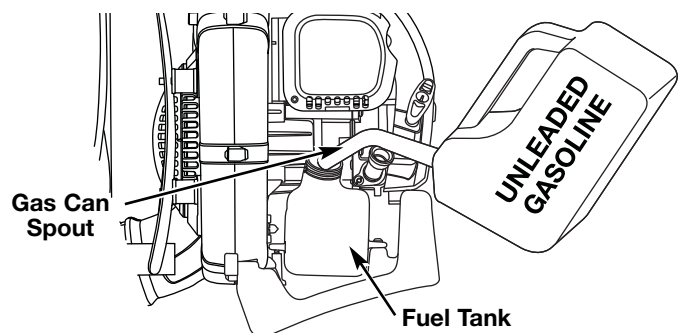

Fig. 13
2. Place the gas container's spout into the fill hole on the fuel tank (Fig. 13) and fill the tank.